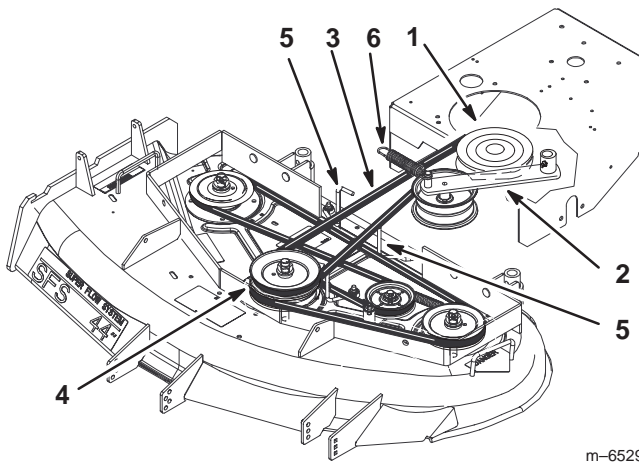

Figure 60
4. Remove the idler spring from idler arm. Remove the drive belt from the PTO engagement pulley and the center spindle pulley (Fig. 60).
5. Remove the worn drive belt (Fig. 60).
6. Install the new drive belt onto the PTO engagement pulley and the top groove of the center spindle pulley (Fig. 60).
7. Install belt onto idler pulley and then install idler spring (Fig. 60).
8. Adjust PTO drive belt guides an 1/8 inch (3 mm) from belt (Fig. 60).